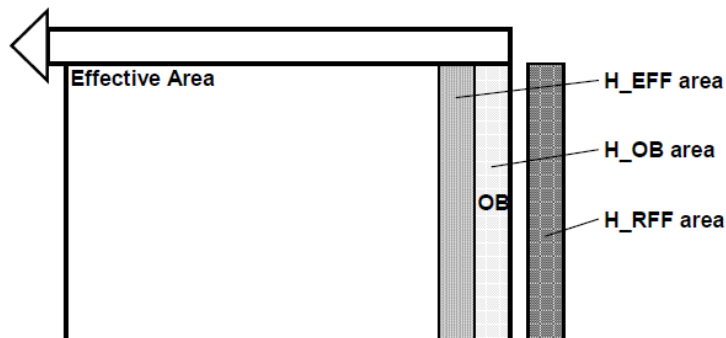

Figure 4. Horizontal transfer efficiency.
- 6) See figure 4 below for the Test area.